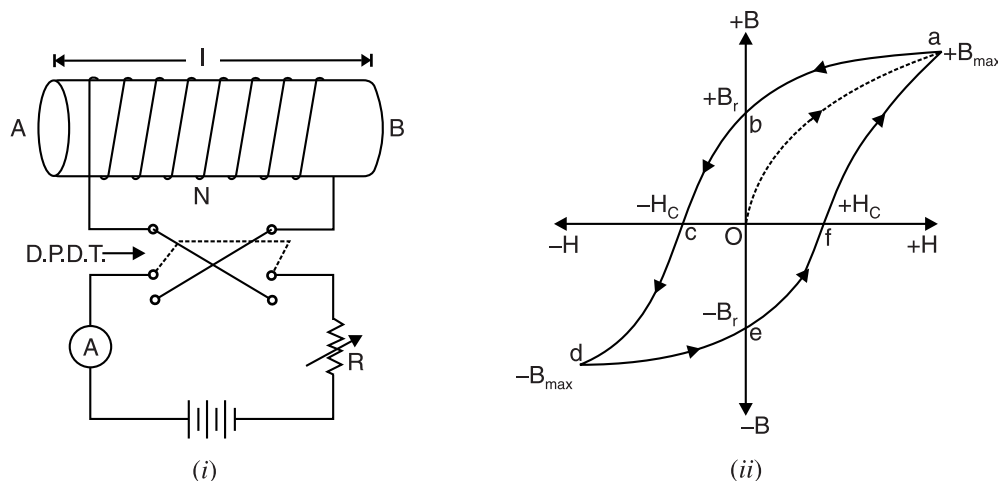

Fig. 8.36
The term 'hysteresis' is derived from the Greek word *hysterein* meaning to lag behind. If a piece of magnetic material is subjected to one cycle of magnetisation, the resultant  $B$ - $H$  curve is a closed loop *abcdefa* called *hysteresis loop* [See Fig. 8.36 (ii)]. Note that  $B$  always lags behind  $H$ . Thus at point 'b',  $H$  is zero but flux density  $B$  has a positive finite value *ob*. Similarly at point 'e',  $H$  is zero, but flux density has a finite negative value *oe*. This tendency of flux density  $B$  to lag behind magnetising force  $H$  is known as magnetic hysteresis.
**Hysteresis Loop.** Consider an unmagnetised iron bar  $AB$  wound with  $N$  turns as shown in Fig. 8.36 (i). The magnetising force  $H (= NI/l)$  produced by this solenoid can be changed by varying the current through the coil. The double-pole, double-throw switch (DPDT) is used to reverse the direction of current through the coil. We shall see that *when the iron piece is subjected to a cycle of magnetisation, the resultant  $B$ - $H$  curve traces a loop  $abcdefa$  called hysteresis loop.*